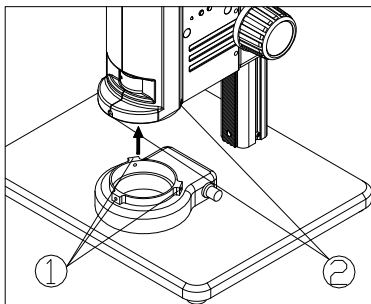

Fig. 2
- 1) Move the LED ring light close to the microscope body according to the arrowhead direction, align the three screw holes ① with the thread groove ②, and lock the screw with a M4 inner hexagon spanner (side length 2mm). (See Fig. 2).